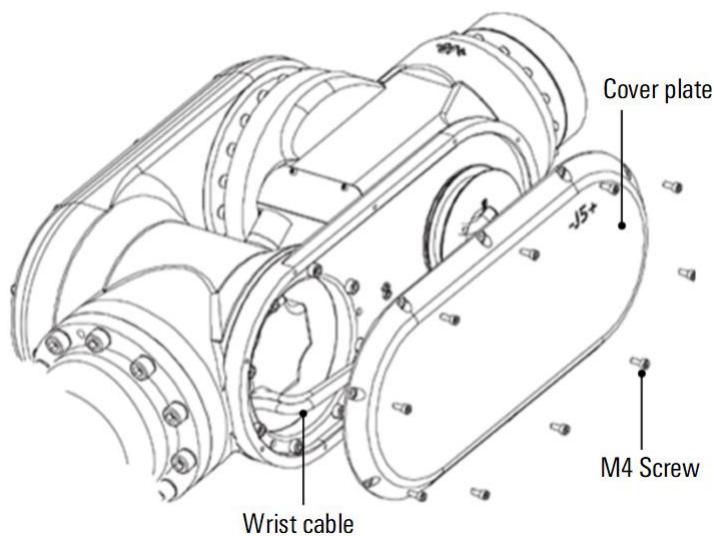

Figure 10-4 Wrist internal cable
- Step1. Remove the M4 screws on the cover plate and take off the cover plate, as shown in Figure 10-4.